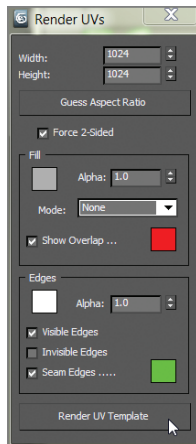

FIGURE 11.30
3. In the Edit UVWs dialog box, select Tools > Render UVW Template to open the Render UVs dialog box, shown in Figure 11.30.